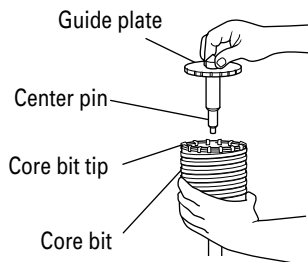

Fig. 28
- (3) Insert the center pin into the guide plate until it stops.
(4) Engage the guide plate with the core bit, and turn the guide plate to left or right so that it does not fall even if it faces downward. (Fig. 28)